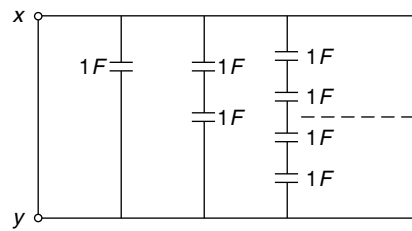

Fig. 1.39 Capacitance network of Ex. 1.31
1.31 Find the equivalent capacitance across XY (Fig. 1.39).